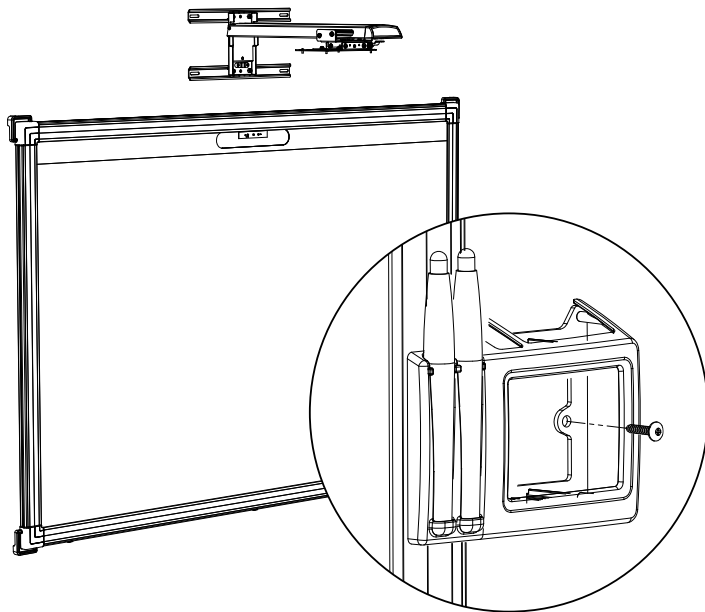

Figure 10
18. Secure marker tray (Figure 10) to wall using: